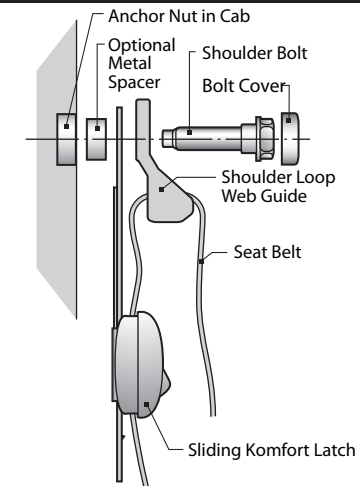

Figure 1
2. Assemble hardware as shown in Figure 1. Some applications require an optional metal spacer to move the Sliding Komfort Latch and shoulder loop away from the vehicle cab trim. This metal spacer should only be used when specified by the vehicle manufacturer.